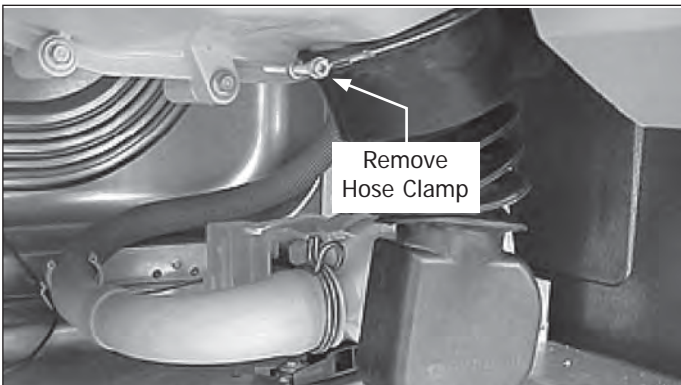

Figure 4-79.
2. Loosen the clamp at the tub. (See Figure 4-79)